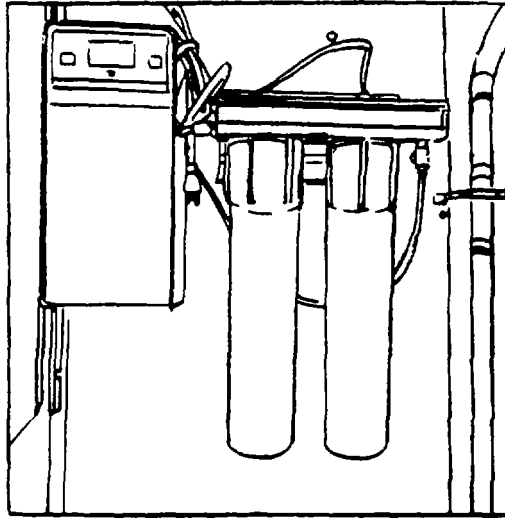

Figure 1-20. Water Purification System
1. *Water Purification System (Figure 1-20).* The Water Purification System is designed to produce Type I Reagent Grade Water equal to or exceeding standards established by ASTM. It can be used on pretreated or high quality tap water.